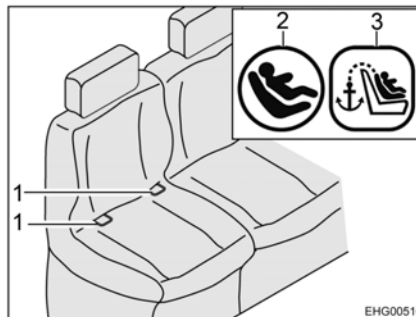
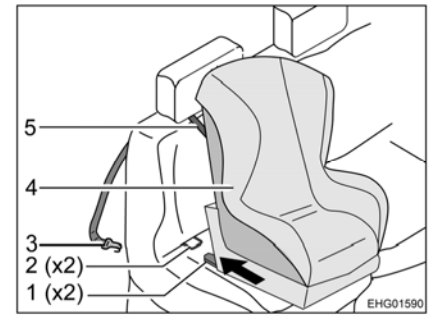

Fig. 19 Seat with Isofix
Fig. 20 Fastening with top tether
- Have the connectors (Fig. 20,1) snap into the retaining clips (Fig. 19,1 and Fig. 20,2). While doing this, a distinctive click must be heard.
- With a strong jerk, check if the child seat (Fig. 20,4) is firmly connected.
- Thread the top tether strap (Fig. 20,5) between the headrest and the back cushion.
- Hook the fixing hook (Fig. 20,3) onto the attachment point on the back of the vehicle seat.